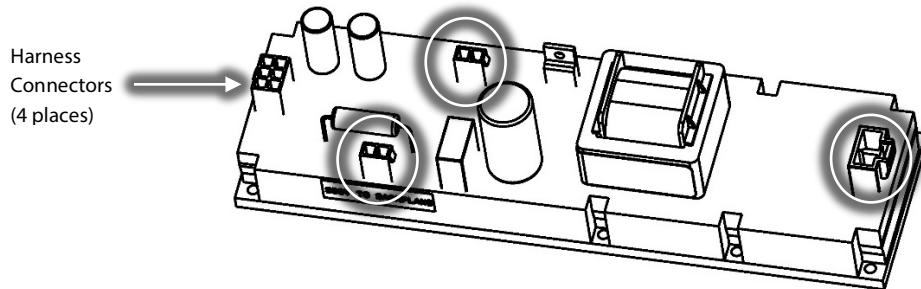

Figure 17 – HV DC-DC Harness Removal
25. Disconnect all wiring connections from the HV DC-DC. Refer to Figure 17 (HV DC-DC Harness Removal).
24. Connect all electrical connections to the HV DC-DC converter. Refer to Figure 17 (HV DC-DC Harness Removal).
27. Connect the three (3) AC wires from the Soft Start AC/DC cable harness to the appropriate AC bus bar.